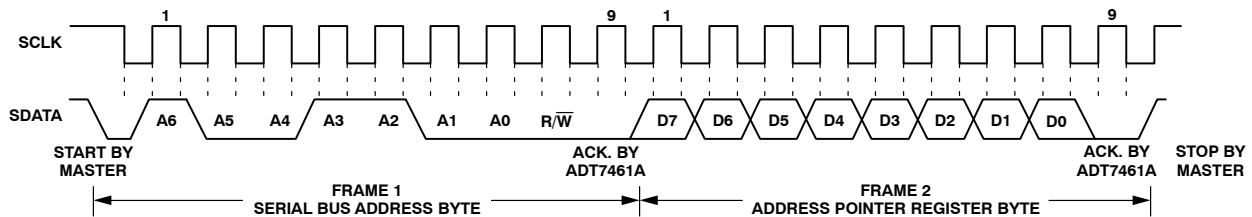
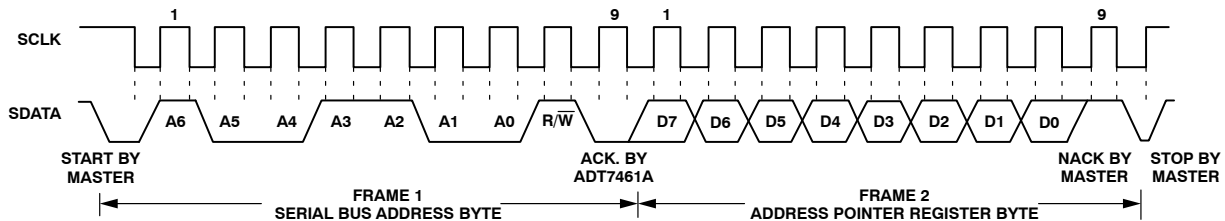

Figure 16. Writing to the Address Pointer Register Only
Figure 17. Reading Data from a Previously Selected Register
1. If the address pointer register value of the ADT7461A is unknown or not the desired value, it is first necessary to set it to the correct value before data can be read from the desired data register. This is done by writing to the ADT7461A as before, but only the data byte containing the register read address is sent, because data is not to be written to the register see Figure 16. A read operation is then performed consisting of the serial bus address, R/W bit set to 1, followed by the data byte read from the data register see Figure 17.
2. If the address pointer register is known to be at the desired address, data can be read from the corresponding data register without first writing to the address pointer register and the bus transaction shown in Figure 16 can be omitted.